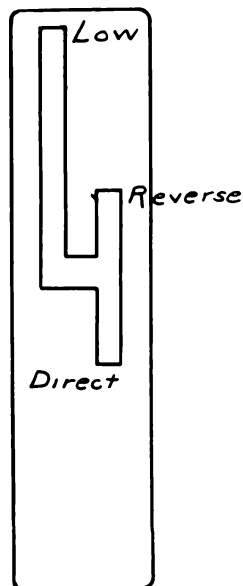

Fig. 41
- 240** — Fig. 41 shows the H slot for a two-speed low transmission. Pull shifting lever from neutral towards right and back for “low.” Shove shifting lever from neutral towards left and back for “reverse”—and forward for “high.” The same relation of shifting exists with a two-speed high transmission, except that “low” is direct and “direct” is “high.”